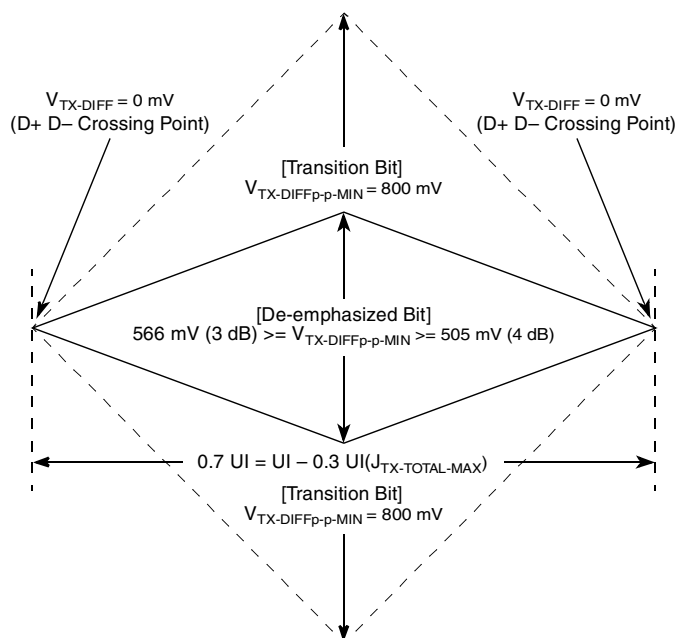
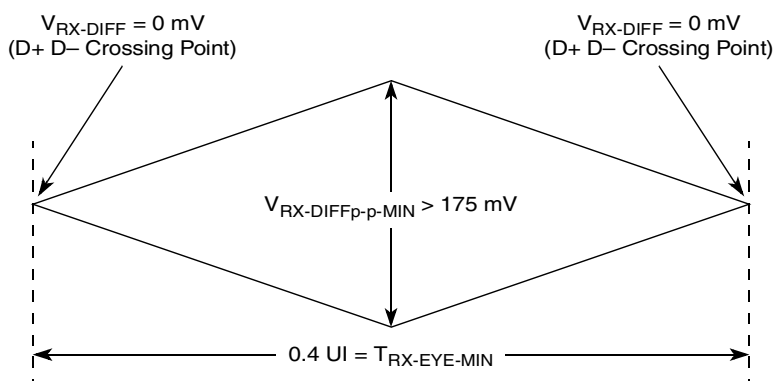
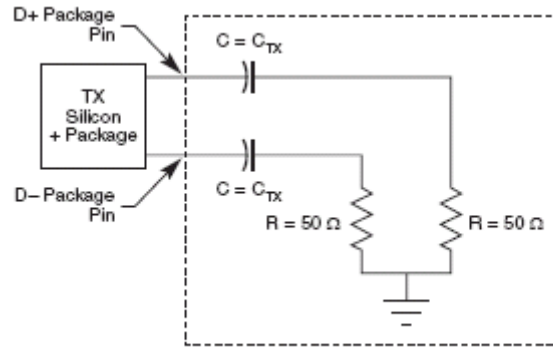

Figure 49. Minimum Transmitter Timing and Voltage Output Compliance Specifications
Figure 50. Minimum Receiver Eye Timing and Voltage Compliance Specification
Figure 51. Compliance Test/Measurement Load
2. Specified at the measurement point into a timing and voltage compliance test load as shown in Figure 51 and measured over any 250 consecutive TX UIs. (Also refer to the transmitter compliance eye diagram shown in Figure 49.)
4. The transmitter input impedance shall result in a differential return loss greater than or equal to 12 dB and a common mode return loss greater than or equal to 6 dB over a frequency range of 50 MHz to 1.25 GHz. This input impedance requirement applies to all valid input levels. The reference impedance for return loss measurements is 50 Ω to ground for both the D+ and D– line (that is, as measured by a vector network analyzer with 50- Ω probes, see Figure 51). Note that the series capacitors, C_{TX} , is optional for the return loss measurement.
5. Measured between 20%–80% at transmitter package pins into a test load as shown in Figure 51 for both $V_{\text{TX-D+}}$ and $V_{\text{TX-D-}}$.
The TX eye diagram in Figure 49 is specified using the passive compliance/test measurement load (see Figure 51) in place of any real PCI Express interconnect + RX component. There are two eye diagrams that must be met for the transmitter. Both diagrams must be aligned in time using the jitter median to locate the center of the eye diagram. The different eye diagrams differ in voltage depending on whether it is a transition bit or a de-emphasized bit. The exact reduced voltage level of the de-emphasized bit is always relative to the transition bit.
2. Specified at the measurement point and measured over any 250 consecutive UIs. The test load in Figure 51 should be used as the RX device when taking measurements (also refer to the receiver compliance eye diagram shown in Figure 50). If the clocks to the RX and TX are not derived from the same reference clock, the TX UI recovered from 3500 consecutive UI must be used as a reference for the eye diagram.
4. The receiver input impedance shall result in a differential return loss greater than or equal to 15 dB with the D+ line biased to 300 mV and the D– line biased to –300 mV and a common mode return loss greater than or equal to 6 dB (no bias required) over a frequency range of 50 MHz to 1.25 GHz. This input impedance requirement applies to all valid input levels. The reference impedance for return loss measurements for is 50 Ω to ground for both the D+ and D– line (that is, as measured by a vector network analyzer with 50- Ω probes, see Figure 51). Note that the series capacitors, C_{TX} , is optional for the return loss measurement.
The RX eye diagram in Figure 50 is specified using the passive compliance/test measurement load (see Figure 51) in place of any real PCI Express RX component. In general, the minimum receiver eye diagram measured with the compliance/test measurement load (see Figure 51) is larger than the minimum receiver eye diagram measured over a range of systems at the input receiver of any real PCI Express component. The degraded eye diagram at the input Receiver is due to traces internal to the package as well as silicon parasitic characteristics which cause the real PCI Express component to vary in impedance from the compliance/test measurement load. The input receiver eye diagram is implementation specific and is not specified. RX component designer should provide additional margin to adequately compensate for the degraded minimum Receiver eye diagram (shown in Figure 50) expected at the input receiver based on an adequate combination of system simulations and the return loss measured looking into the RX package
The reference impedance for return loss measurements is 50. to ground for both the D+ and D- line (that is, as measured by a Vector Network Analyzer with 50. probes—see Figure 51). Note that the series capacitors, $C_{PEACCTX}$, are optional for the return loss measurement.
The AC timing and voltage parameters must be verified at the measurement point, as specified within 0.2 inches of the package pins, into a test/measurement load shown in Figure 51.